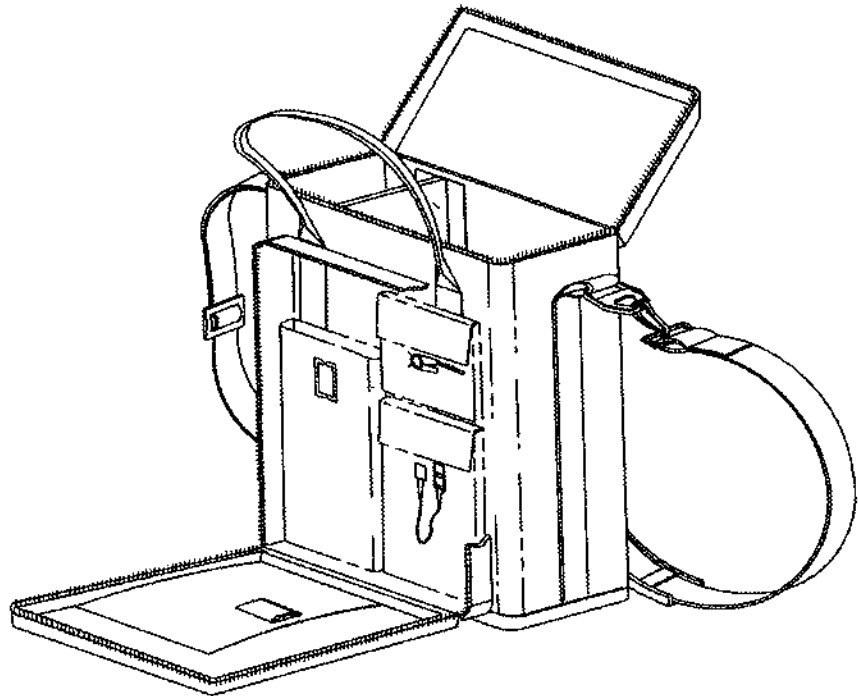

Figure 8: Soft Sided Carrying Case
- Soft Sided Carrying Case. See Figure 8, page 18.
An optional soft-sided carrying case is available from Mallinckrodt for the N-395. See Figure 8. The padded carrying case protects the N-395 while transporting the monitor. The carrying case contains two pockets for sensors, cables, and operator's manual.